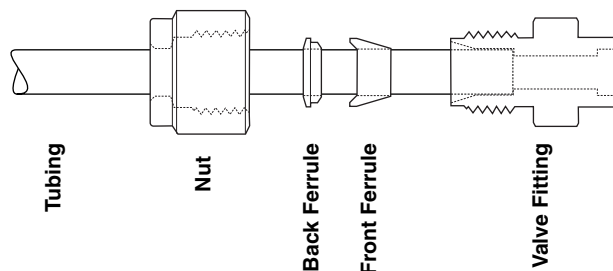

Figure 2-10 Tubing preparation, high flow
4. Prepare one end of each tubing piece as shown in Figure 2-10.